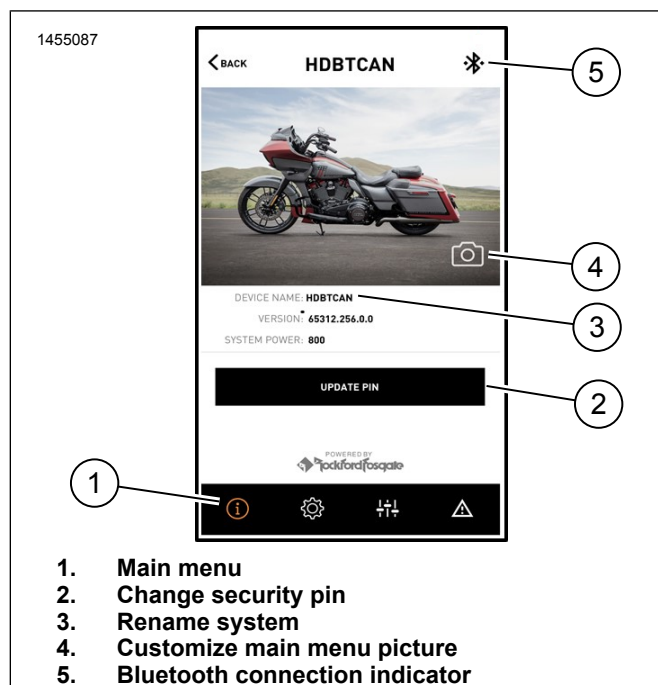

Figure 21. Main Menu
2. See Figure 21. Main menu screen.
- Main menu icon (1).
- Reset or change security personal identification number (PIN) (2).
- Edit and rename your system (3).
- Customize main menu with your bike picture (4).
- Bluetooth connection indicator. Slash through symbol indicates: Not Connected (5).